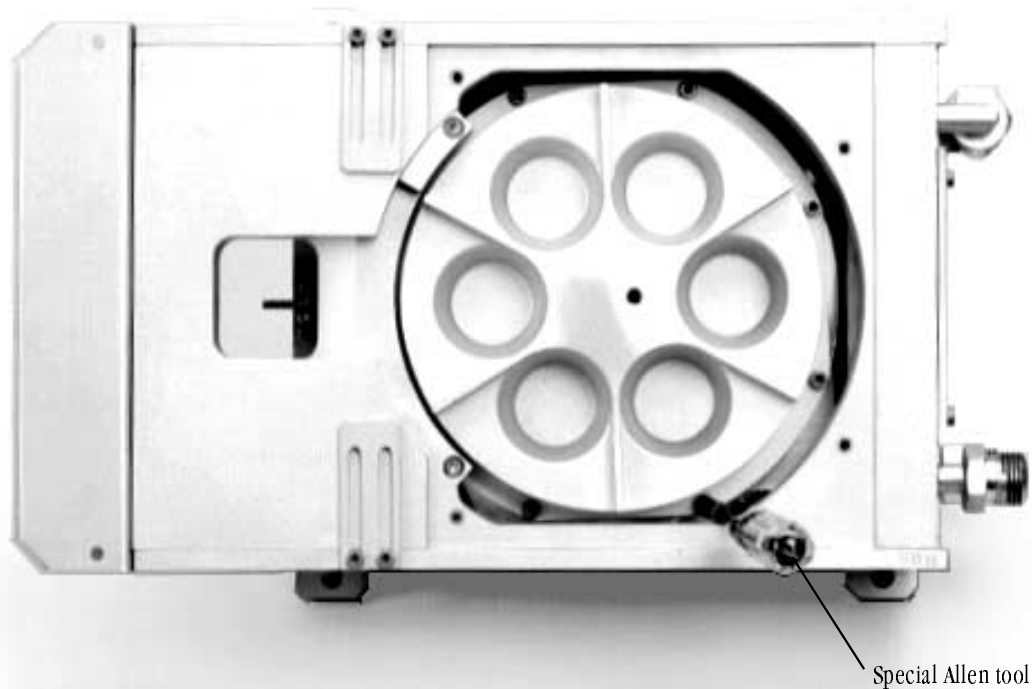

Figure 6-4. Removing the screws that secure the crucible to the crucible mounting flange
Step 3: Remove the screws that secure the crucible to its mounting flange. There are eight of these screws, six of which will be accessible if you turn the crucible to the position shown in Figure 6-4. Perform the following steps in removing these screws: